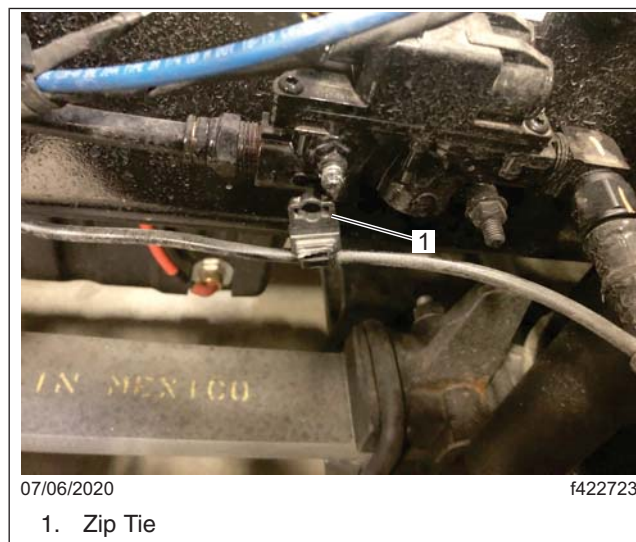

Fig. 4, ABS Zip Tie
3. Remove the antilock braking system (ABS) zip tie from the modulator mounting bolt. See Fig. 4.